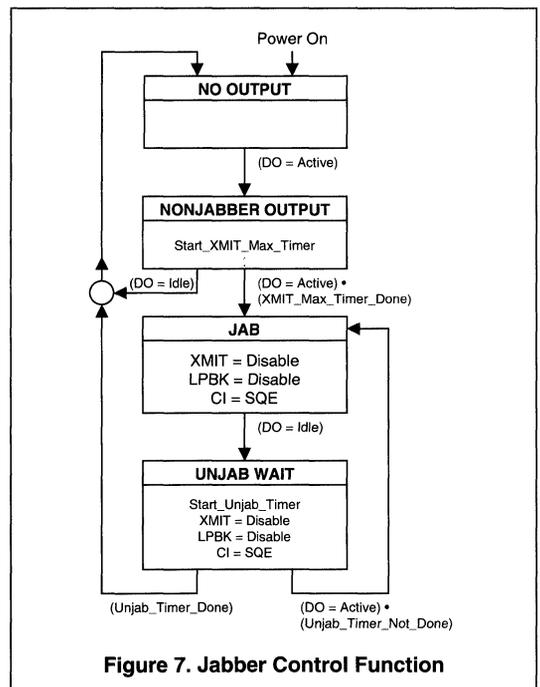

Figure 7. Jabber Control Function
Figure 7 is a state diagram of the MB86961(A) Jabber control function. The MB86961(A) on-chip watchdog timer prevents the DTE from locking into a continuous transmit mode. When a transmission exceeds the time limit, the watchdog timer disables the transmit and loopback functions, and activates the JAB pin. Once the MB86961(A) is in the jabber state, the TXD circuit must remain idle for a period of 0.25 to 0.75 seconds before it will exit the jabber state.